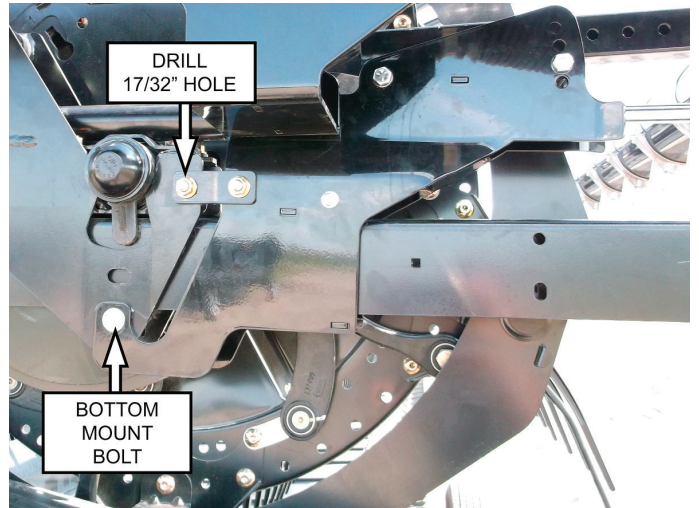
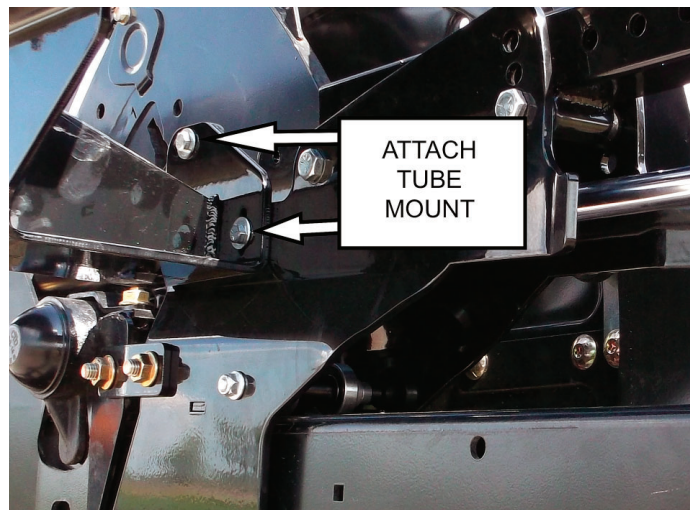
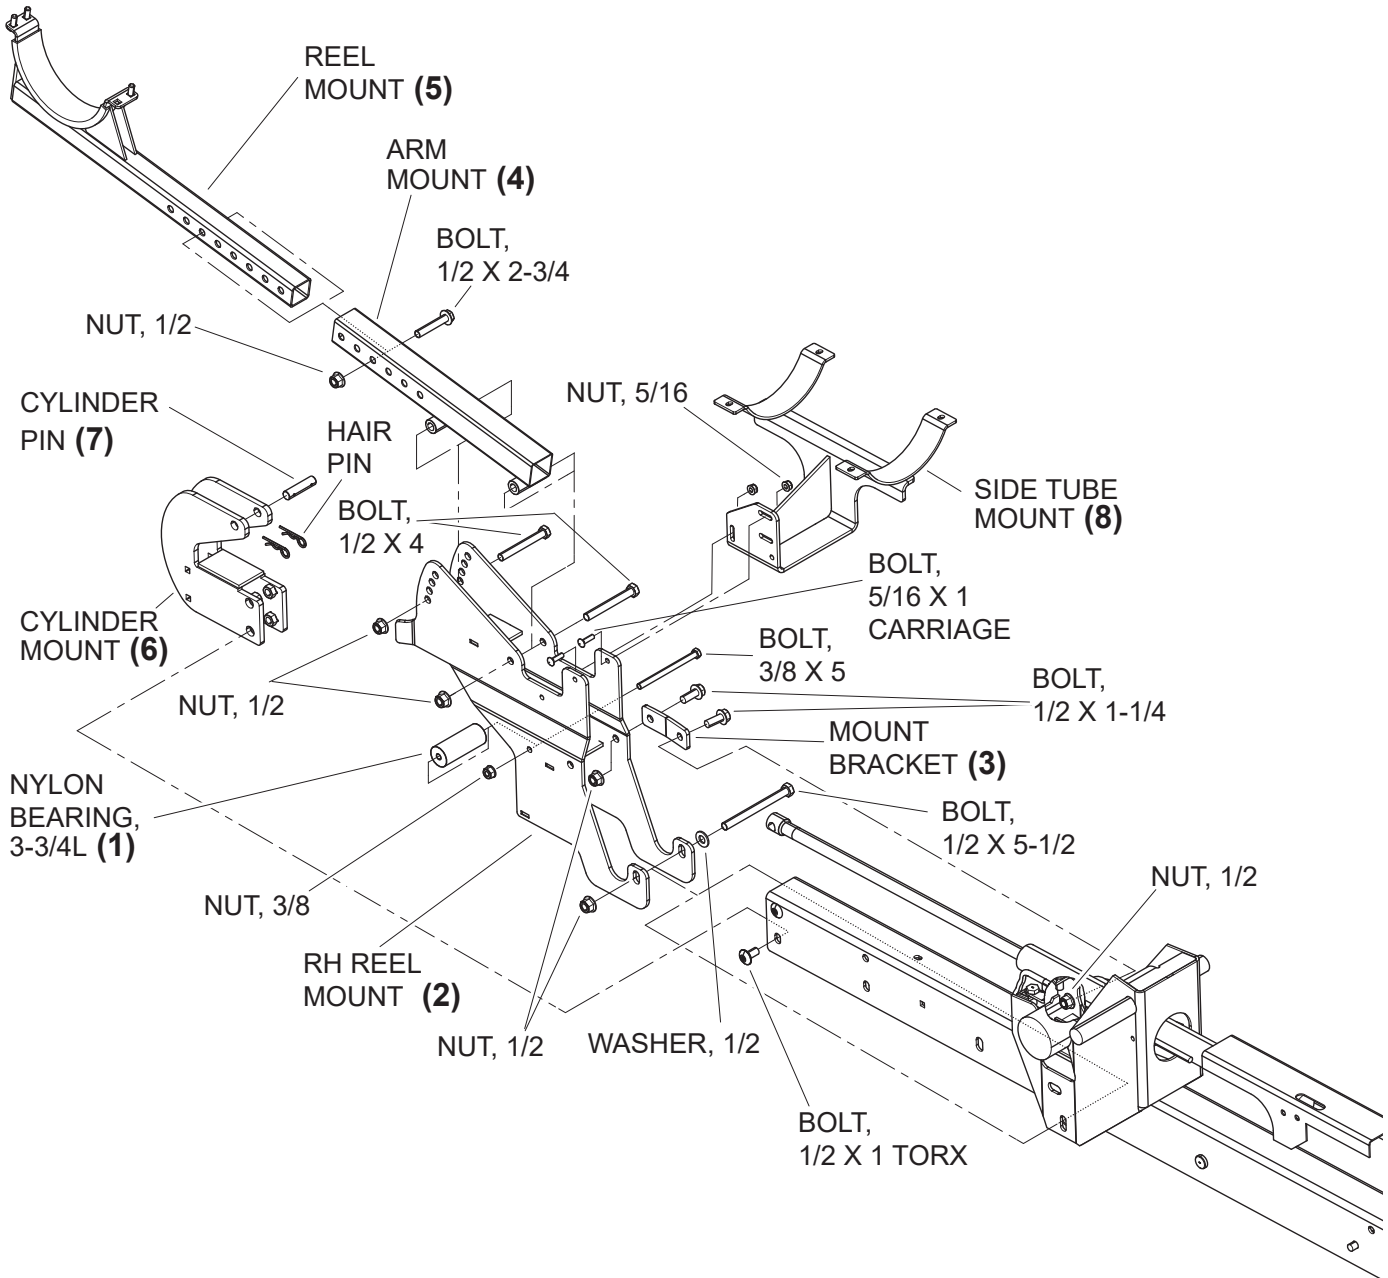

Figure 28: RH reel mount (FD75 headers)
Figure 29: RH reel mount (FD75 headers)
Figure 32: Right reel arm mount assembly (FD1 & FD75 headers)
3. Use a 3/8 x 5" bolt and nut to secure the 3-3/4" nylon bearing (1) to the RH reel mount (2). (Figure 32) Nylon bearing should rotate freely.
4. Attach the bottom of the RH reel mount (2) to the OEM reel arm using the OEM spacer removed in Step 1, 1/2" x 5-1/2" bolt, nut and washers. (Figure 28)
5. Attach the mount bracket (3) to the outside of the RH reel mount (2) using a 1/2" x 1-1/4" bolt and nut.
6. Using the mount bracket (3) as a guide, mark and drill a 17/32" hole into the OEM reel arm. Be sure to have the bracket straight when marking hole location. Attach the bracket to the OEM reel arm using a 1/2" x 1-1/4" bolt and nut.
7. Attach the arm mount (4) to the RH reel mount (2) using two 1/2" x 4" bolts and nuts. (Figure 32)
8. Insert a reel mount (5) into the arm mount and secure with a 1/2" x 2-3/4" bolt and nut.
9. Install new cylinder mount (6) using four 1/2" x 1" Torx bolts.
10. Attach the cylinder to the cylinder mount (6) with the provided cylinder pin (7) and two hair pins.
11. Attach the side tube mount (8) the RH reel mount (2) using two 5/16" x 1" bolts and nuts. (Figure 29)